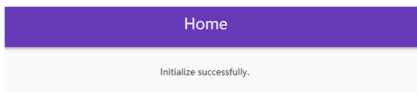

Figure 4. Initialization Successful Interface
- 4) Click **"Initialize"**. The initialization takes about 2 min. If Initialize successfully is displayed (as shown in following figure 4, the device is connected successfully, and you can go to the next step